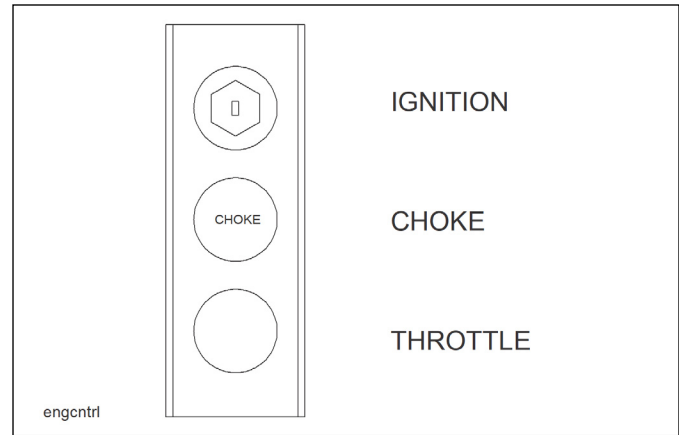

Figure 3-11: Engine Control Panel
2. The Engine Ignition Switch, Choke and Throttle are on the Engine Control Panel mounted on the drivers side of the engine package (See Figure 3-11.)
3. The **HYDRAULIC POWER SUPPLY ENGINE THROTTLE** controls the speed at which the engine operates (See Figure 3-11.) It is a variable position control: